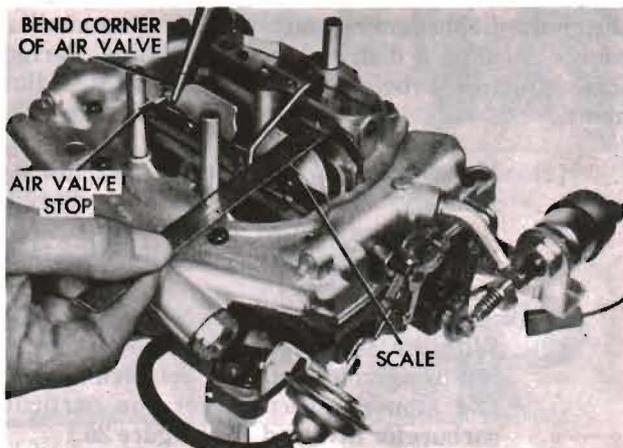

Figure 22. Adjusting Secondary Air Valve Opening—Slide 2188
- (2) With air valve in wide open position, the opening of the air valve at the short side and air horn should be according to specifications for the particular carburetor involved. The corner of the air valve is notched for adjustment. Bend the corner with a pair of pliers to provide the proper opening. (See figure 22.)